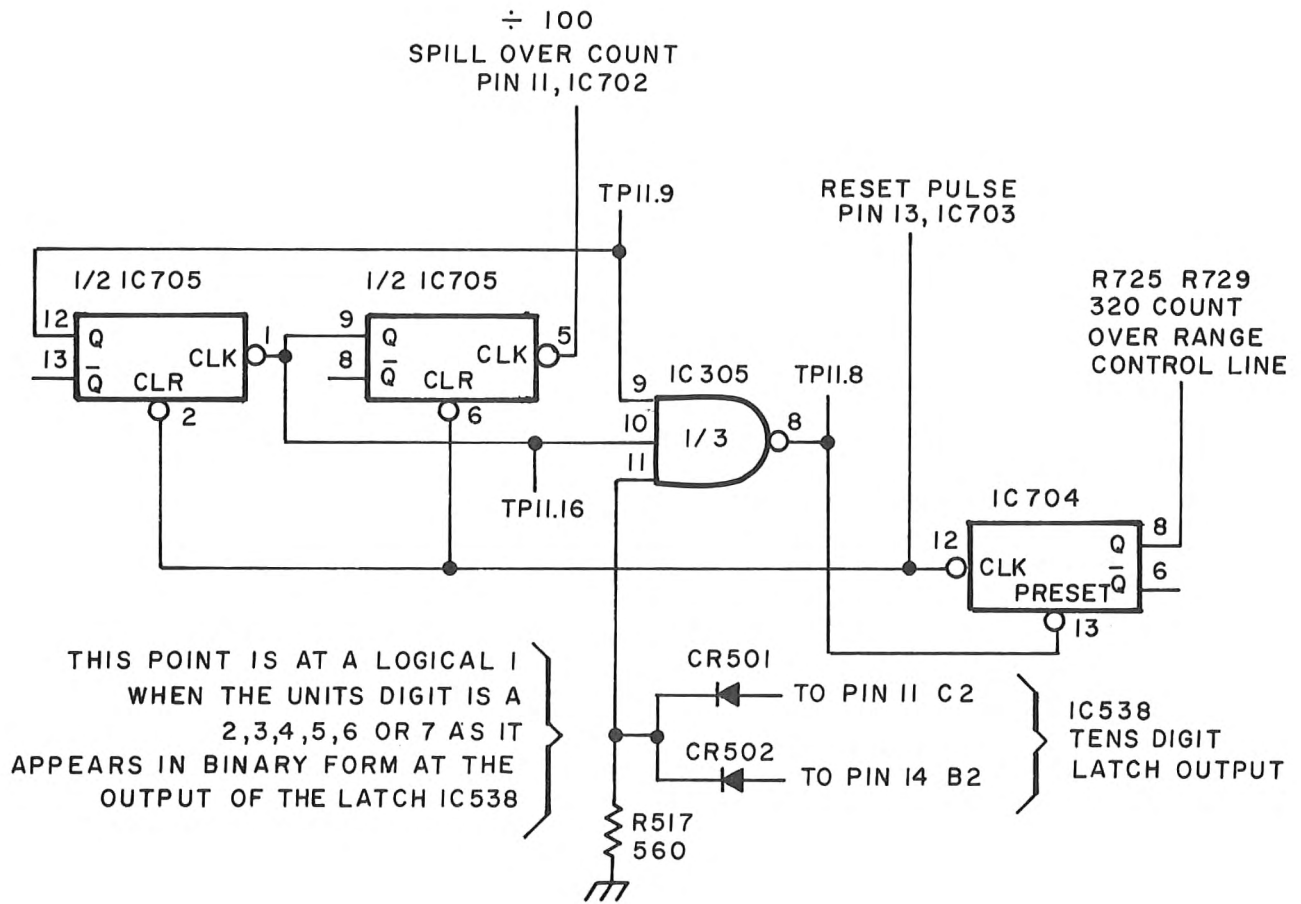

Figure 4-4 12dB Over Range Logic Schematic
- This results in both Q outputs of IC 705 to be at a logical one level and this condition is recognized by applying this information to a three input NAND gate IC305. (See Fig. 4-4)